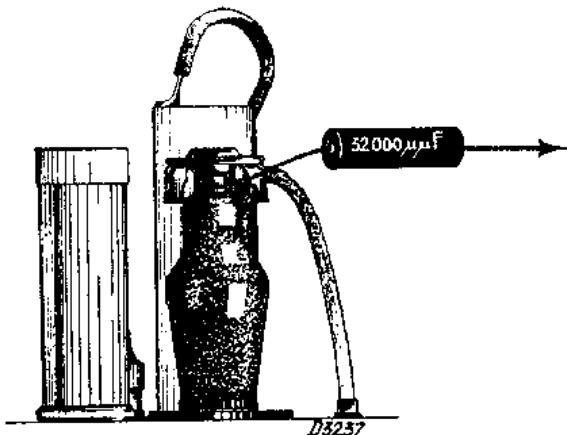

Fig. 2.
4. Apply modulated 128 K.C. signal across $32,000 \mu\mu\text{F}$ to top of L1 (see Fig. 2).